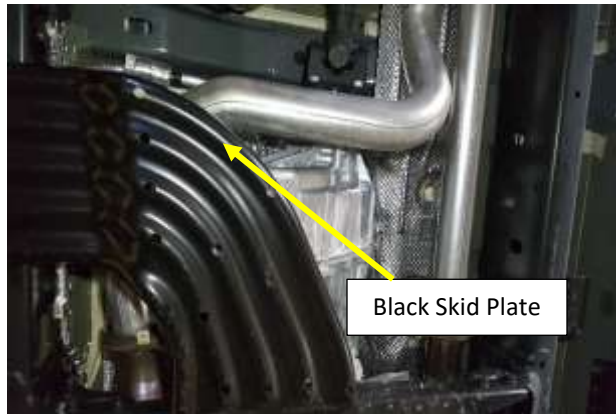

Figure 3
4. Remove the (x5) bolts attaching the black section of the factory skid plate under the transfer case. **Fig.3.** Remove the skid plate.